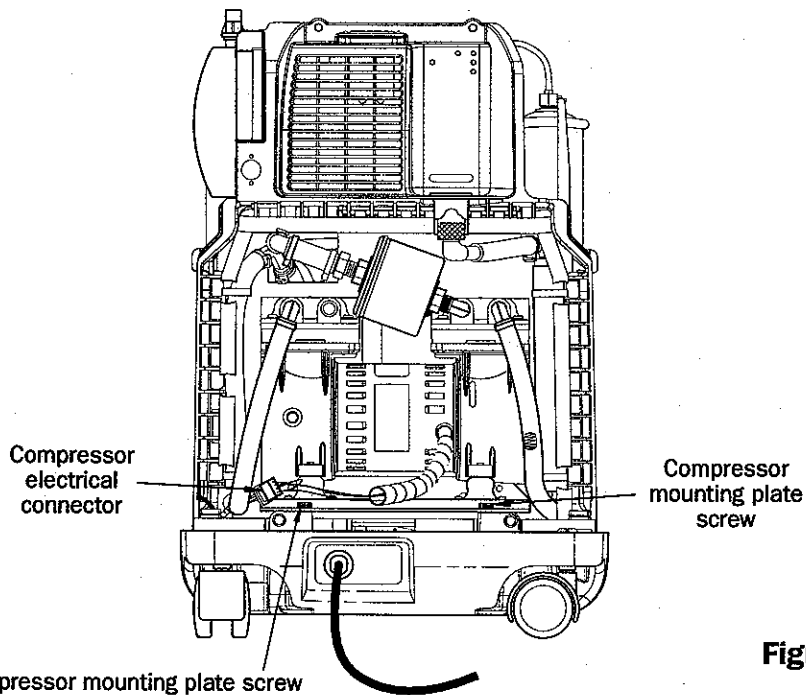

Figure 34
5. Remove the two screws from the back of the compressor mounting plate (Figure 34).